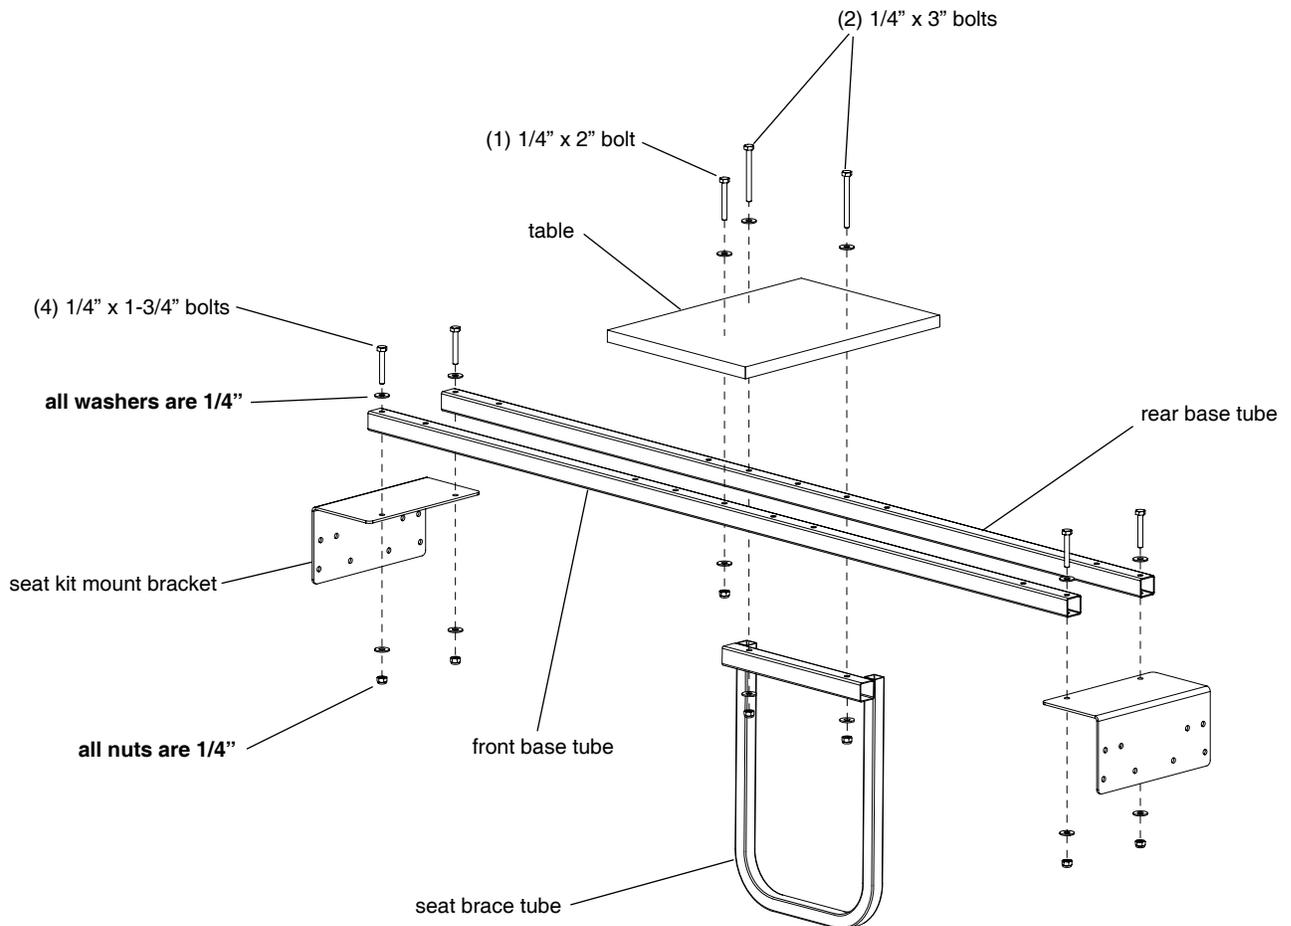

FIGURE 3A
2. Attach (2) base tubes (68431) to the top side of seat kit mount brackets using (4) provided 1/4-20 x 1-3/4" bolts, nyloc nuts and (8) washers. **SEE FIGURE 3A.**
3. a. Attach table (68439) to top of rear base tube and seat brace (68172) to bottom of rear base tube using (2) provided 1/4-20 x 3" bolts, nyloc nuts and (4) washers. **SEE FIGURE 3A.**
NOTE: Seat brace should be oriented so cross tube is to the front of ice shelter. SEE FIGURE 3A.
3. b. Attach front of table to front base tube using (1) provided 1/4-20 x 2" bolts, nyloc nut and (2) washers. **SEE FIGURE 3A.**